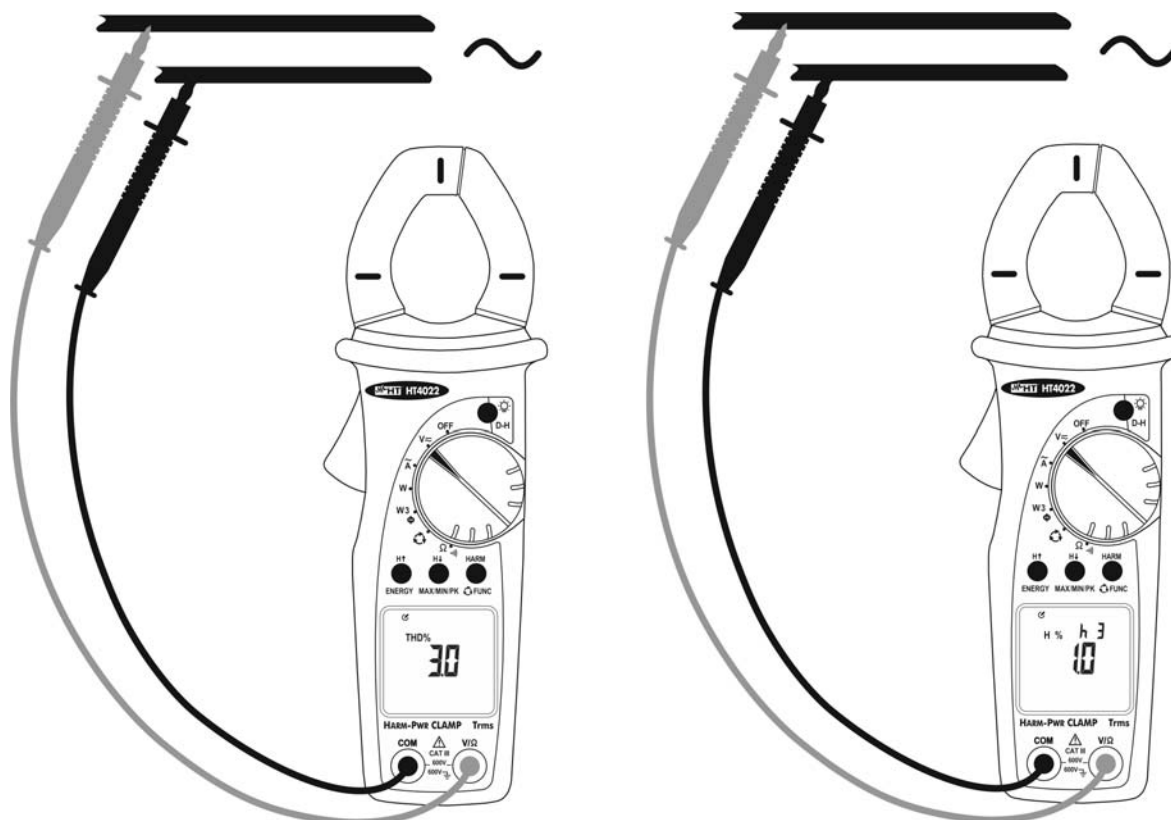

Fig. 6: Use of instrument for AC voltage harmonic measurement
4. Connect the test leads to the circuit under test (see Fig. 6). The instrument displays the Total Harmonic Distortion value of the input signal. The symbol “**THD%**” is shown on the display. See § 8 for the parameter’s definition